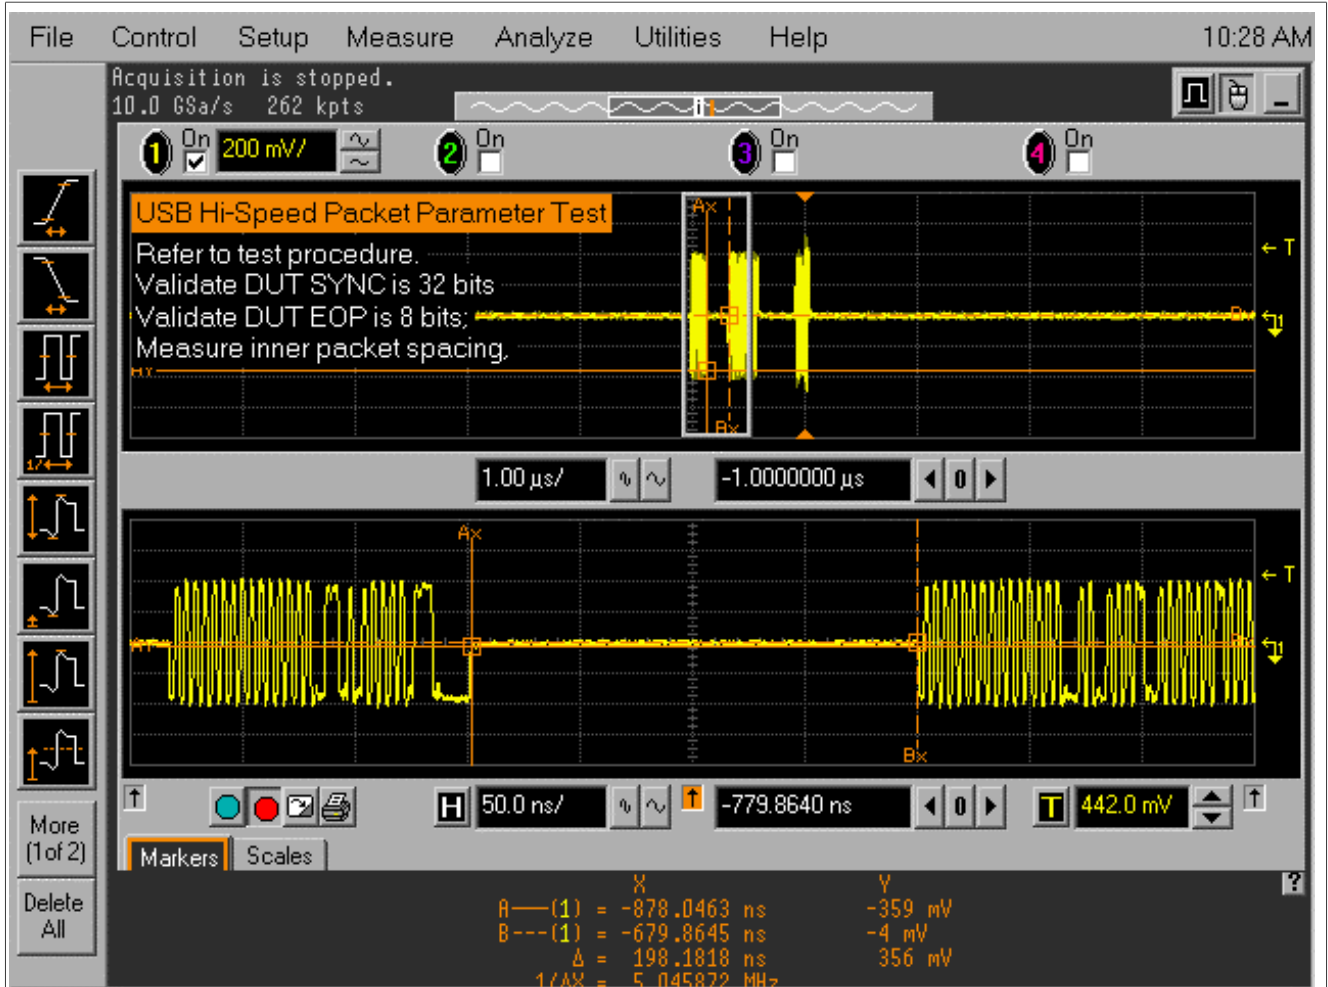

Figure 71. EL\_23 Host Inter-packet Gap Waveform
5. After 15 seconds of **SOF** s, the host initiates the setup phase of the **GetDescriptor()** command. The host sends **SETUP** and **DATA** (first and second packet), then Device sends an **ACK**. You should see the transmitted test packet on the oscilloscope as shown in Figure 71 below. Click **OK** to close the Test Instruction dialog.